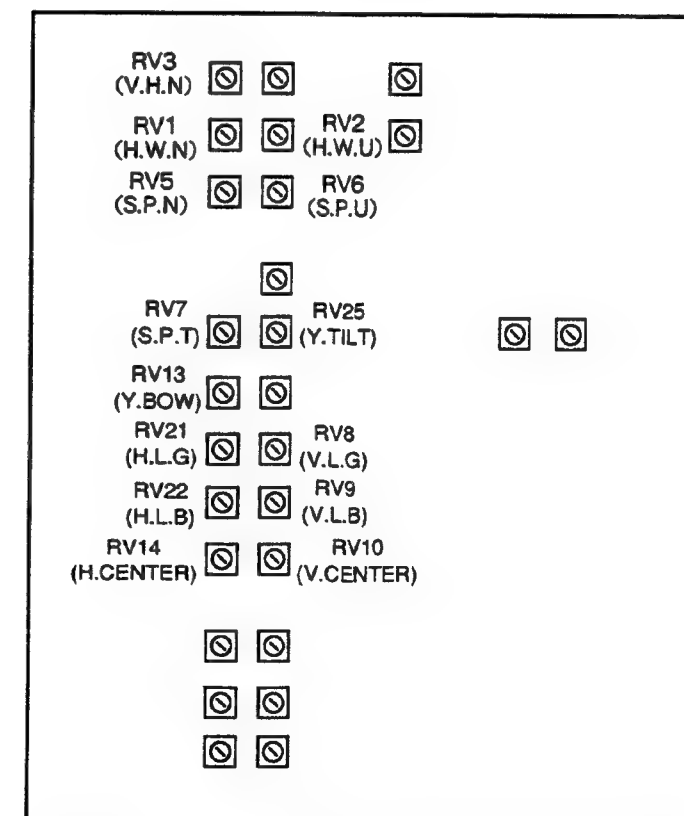

Fig. 28-9
4. Adjust the gain of H.lineality with H.L.G (RV21) on the DA board as shown in Fig. 28-9.